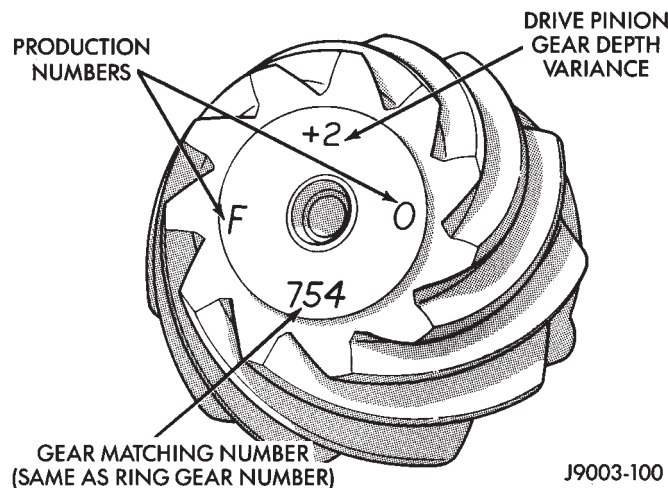

Fig. 41 Pinion Gear ID Numbers
Gears are supplied as matched sets only. The identifying numbers for the ring and pinion gear are etched into the face of each gear (Fig. 41). A plus (+) number, minus (-) number or zero (0) is etched into the face of the pinion gear. This number is the amount (in thousandths of an inch) the depth varies from the standard depth setting of 2.250 inches (57.1 mm) for Model 30 axles. The standard depth provides the best teeth contact pattern.